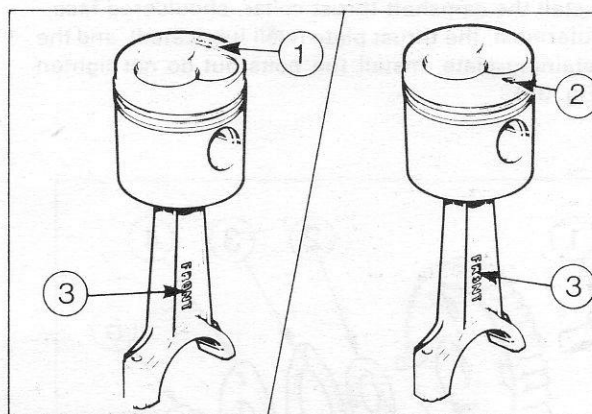

Fig. 40 - Piston and Connecting Rod "Fitting" Marks (Towards Front of Engine)
42. Assemble each piston to its respective connecting rod. Heat the piston in hot water, locate the connecting rod into the piston ensuring that the arrow or notch on the piston crown and "F" or "Front" mark on the connecting rod are facing the same way (Fig. 40) and insert the piston pin into the piston and through the connecting rod. Install the two retainers.